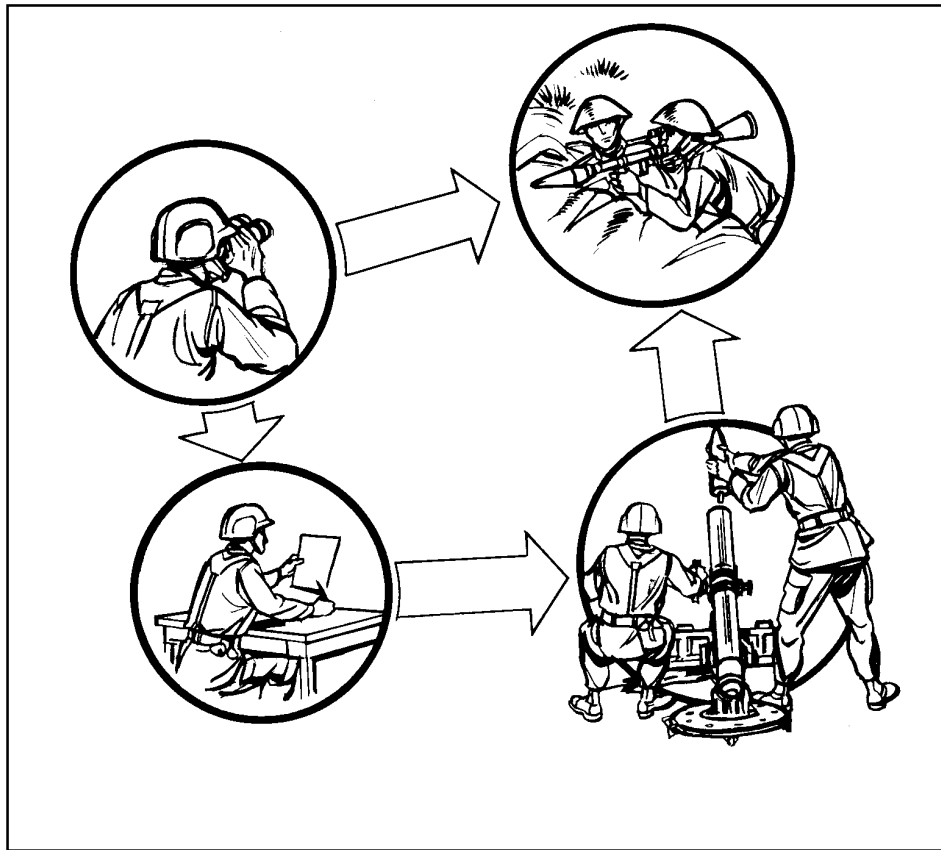

Figure 1-1. The indirect fire team.
Indirect fire procedures are a team effort (Figure 1-1). They include locating the target, determining firing data, applying data to the mortar, and preparing the ammunition. Since the mortar is normally fired from the defilade (where the crew cannot see the target), the indirect fire team gathers and applies the required data. The team consists of a forward observer (FO), a fire direction center (FDC), and a mortar squad.
b. The forward observer (FO), as part of the fire support team (FIST), is normally provided by a direct support (DS) artillery battalion. One 4-man FO team supports each mechanized infantry company. The light infantry company is supported by a 10-man company-level FO team. The team is composed of a lieutenant, a staff sergeant, a radio-telephone operator, a driver with a HMMWV at company headquarters, and six FOs (one 2-man team for each infantry platoon in the company). The FO's job is to find and report the location of targets, and to request and adjust fire.